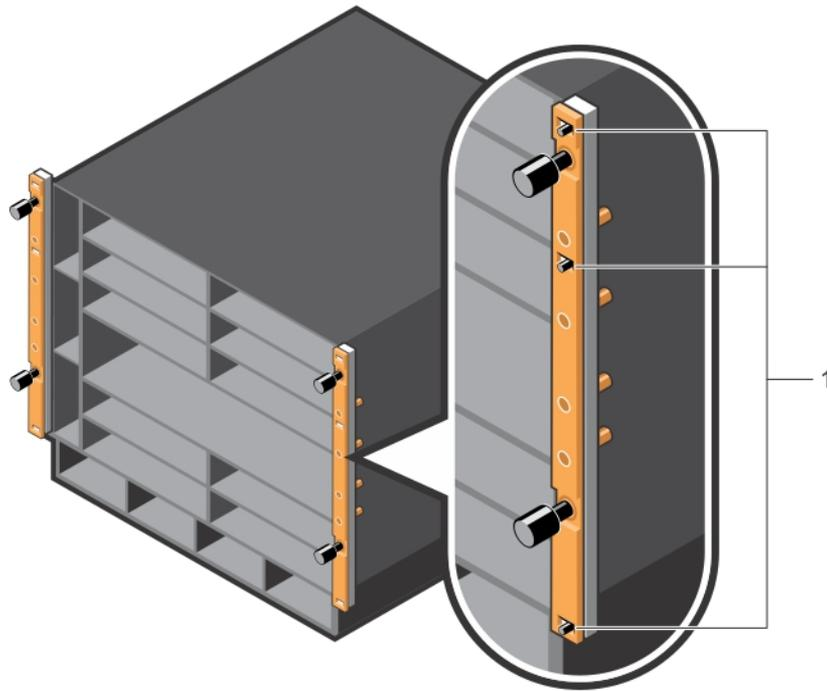

Figure 26. Installing Cable Management Brackets on the Chassis Flanges
- 1 Align the openings on the inside of a bracket with the pins (item 1 in Figure 26) and thumb screws on each chassis flange.